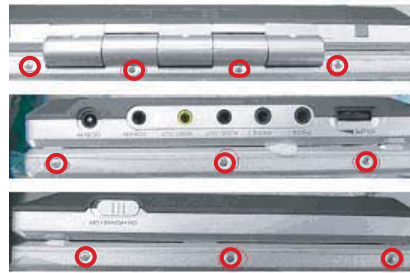

Fig.7
5. Remove top cover as Fig.7,8